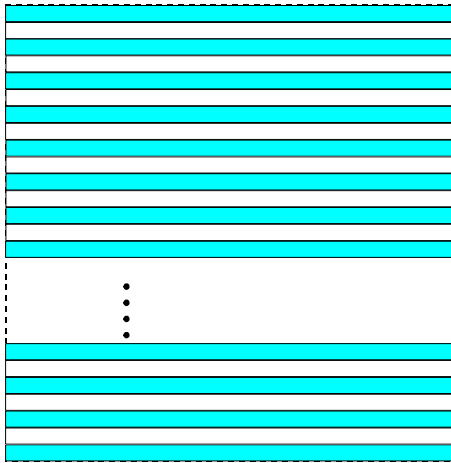

Fig. 97: Decimation of 2 (Mono Cameras)
- 2 for mono cameras: only every second row of the acquired frame will be transmitted out of the camera (Figure 97).